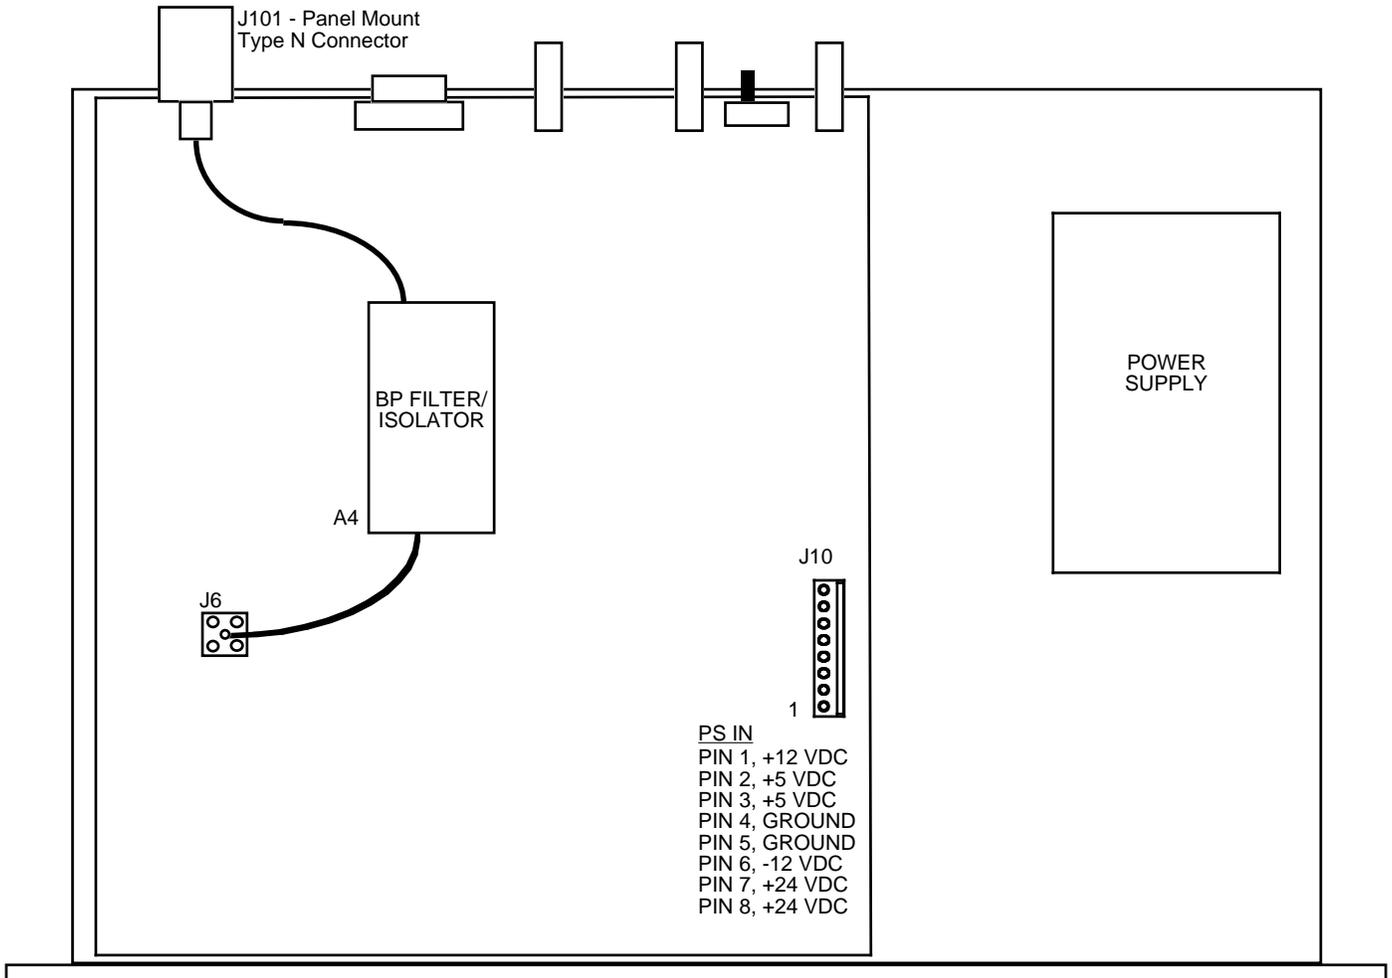

FIGURE 2.0 2116-34 Mechanical Assembly
2.1 Mechanical - The 2116-34 consists of one RF PCB housed in a 1 RU (1 3/4 inch high) by 12 inch deep chassis. A switching, ± 12 , $+24$, $+5$ VDC power supply provides power for the assemblies. The 2116-34 can be secured to a rack using the 4 holes on the front panel. Figure 2.0 shows how the 2116-34 is assembled.